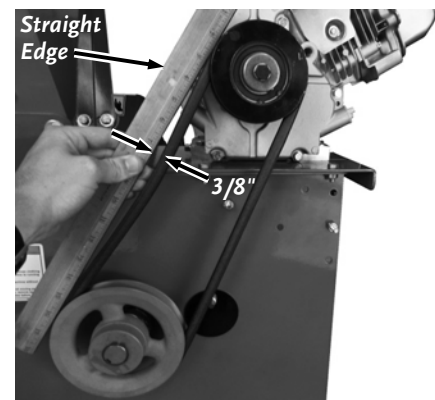

Figure 15
3. Place a straight edge onto the full length of the Belt (**Figure 15**).